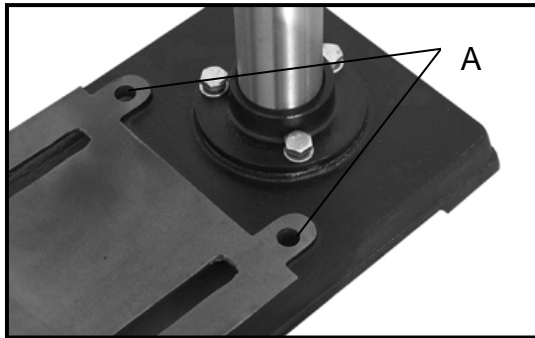

Fig. 11
If during operation there is any tendency for the machine to tip over, slide or walk on the supporting surface, the machine base must be secured to the supporting surface with bolts, through the two holes (A) Fig. 11, located in the machine base.